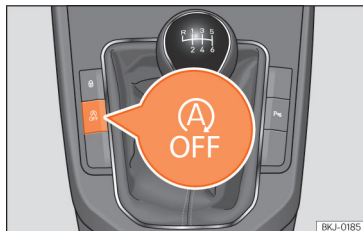

Fig. 87 Centre console: Start-Stop system button.
- To manually switch on/off the Start-Stop system, press the  button »» Fig. 87